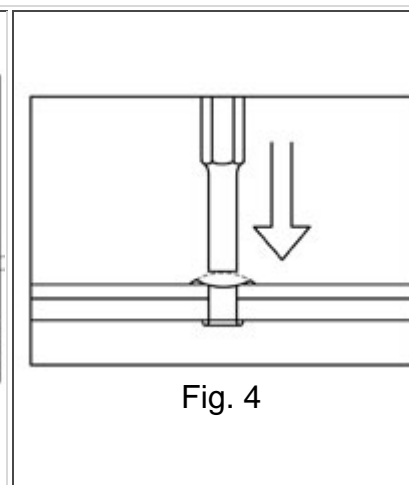

Fig. 4
3. Use a drift to punch the remnants of the rivet out of the hole (Fig. 4).